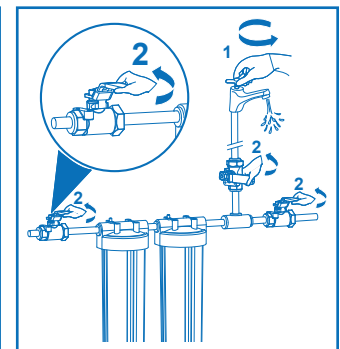

Figure 13
4. Re-install the sump (without filter) and slowly re-pressurize the system (Figure 13). Open each faucet and allow cold water to run until you can smell chlorine in the water. Shut off the faucet and repeat with all other household faucets including hot water. Be sure to include all exterior faucets, shower heads, and dishwasher/washing machine lines within this process.